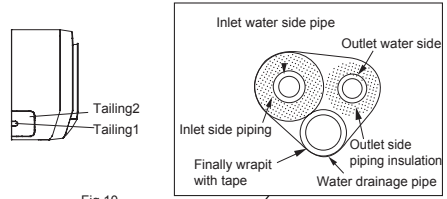

Fig.10
(1) When routing the piping and wiring from the left side of the unit, cut off the tailings from the chassis in necessary(Show in Fig.10)